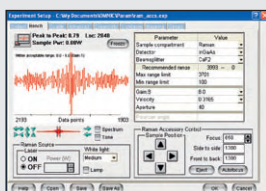

Figure 1
3. Now adjust the sampling accessory to this approximate location through *Experiment setup/Bench* window under Raman Accessory Control (see Figure 1).